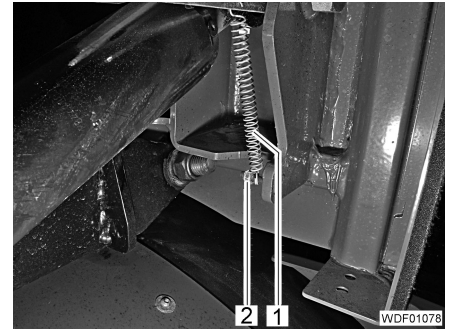

Fig. 460 Spring attachment
- Unscrew the nut (Fig. 460,2).
- Unhook the spring (Fig. 460,1).